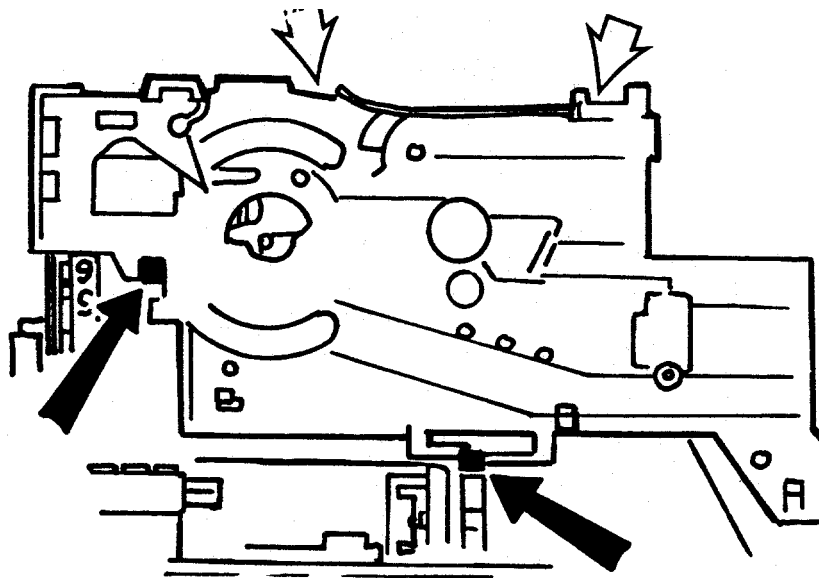

Fig. 24 Removing Base Block from Cone
28. Remove the Base Block from the Cone by releasing the two locking tangs near Motor and Counter Wheel (see Fig. 24), swinging bottom edge of Base Block out and lifting it off the two shoulders at the top of the Cone.